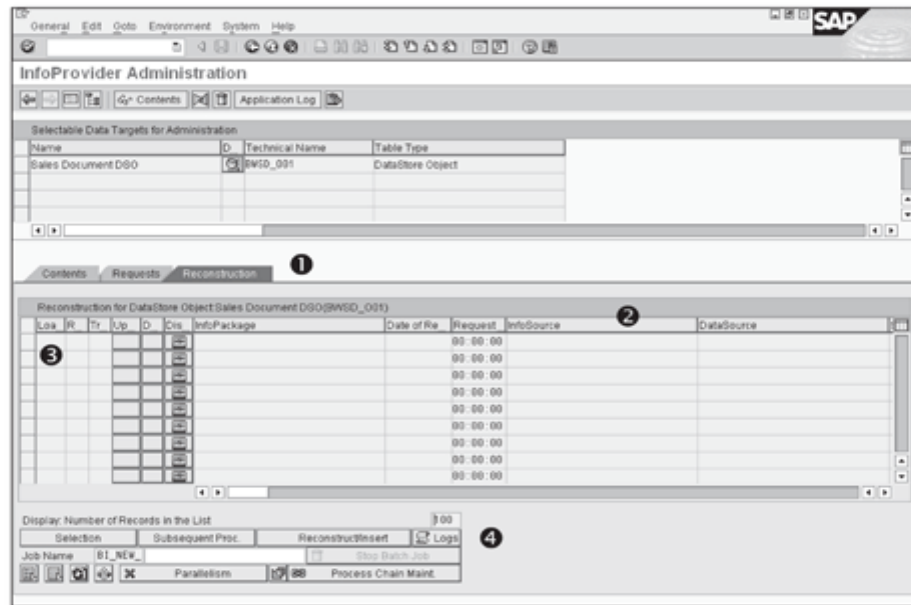

Figure 14.9 Reconstruction of a Request for a DSO
request from the PSA to the data target is known as reconstruction and is managed using the Reconstruction tab (❶ of Figure 14.9).